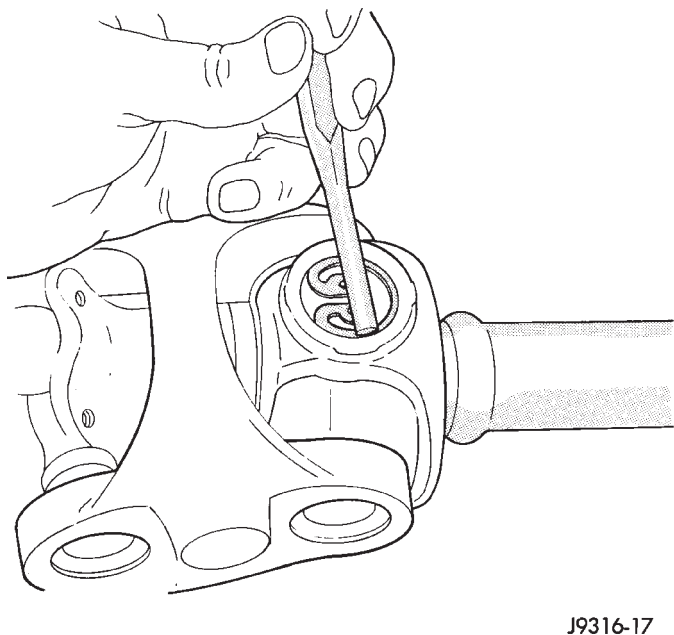

Fig. 32 Seat Snap Rings In Groove
(12) Tap the snap rings to allow them to seat into the grooves (Fig. 32).